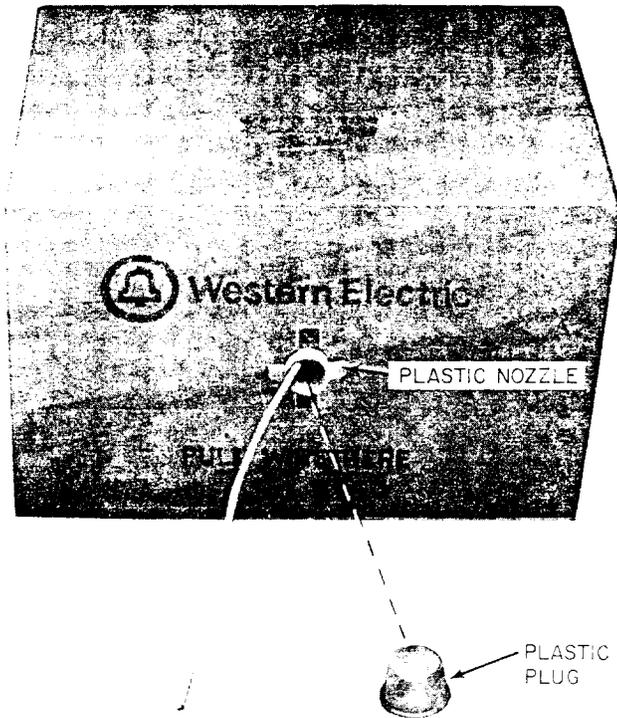

Fig. 2—Dispensing D Inside Wiring Cable or H Station Wire Using Self-Contained Carton/Dispenser
- (1) Remove plastic plug (Fig. 2) from plastic nozzle in carton.
- (2) Grasp free end of cable or wire protruding from plastic nozzle and pull several feet of slack from carton.
- (3) Place carton on floor and feed cable or wire from carton/dispenser (Fig. 2). **Do not remove cable or wire from carton.**
- (4) After cutting the cable or wire and leaving several inches protruding beyond the nozzle, reinsert the plastic plug in the nozzle to anchor the cable or wire end outside the carton.◆